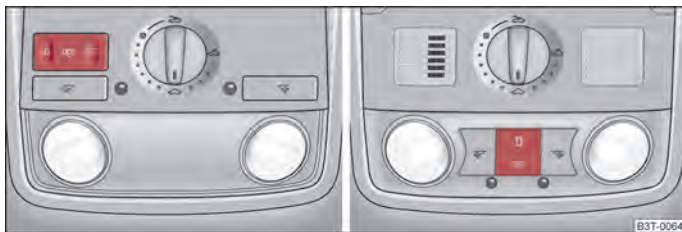

Fig. 41 Front vehicle interior lighting
- Press the switch at the point of the symbol  => fig. 41.
- Position the switch into middle position. On vehicles without interior monitor, the middle position is marked with a symbol  => fig. 41 - left.